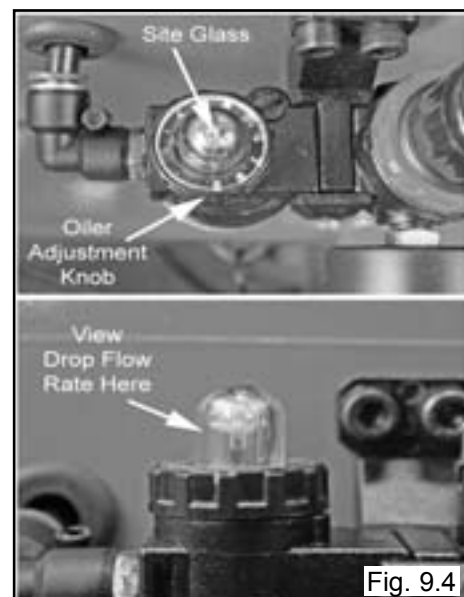

Fig. 9.4
3. Observe the site glass and adjust the oil flow of the oiler by turning the Oiler Adjustment Knob so that 2-3 drops of oil drip through the site glass for each operation of the Bead Breaker Pedal. (See Fig 9.4)